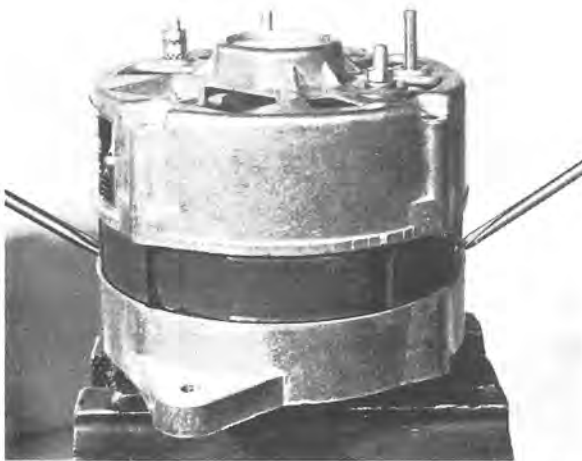

Fig. 3-7. Disassembling alternator
5. Remove the stator and slip ring end shield with the help of two screwdrivers, which are inserted in two of the sockets between the stator and drive end shield, see Fig. 3-7.